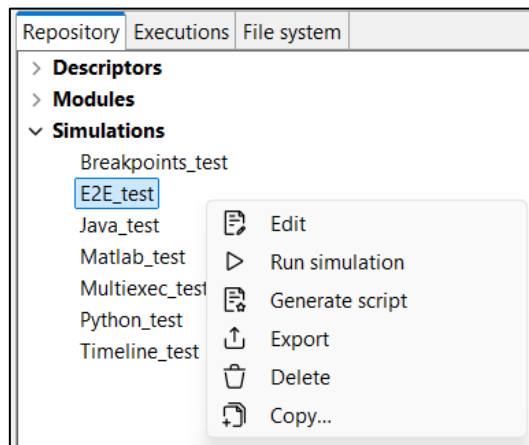

Figure 4-139: Export from the repository menu
1. From the Repository menu. In this case, we need to navigate from the “Repository” menu down to the simulation that the user wishes to export. Next, right-clicking over it; the “Export” option appears for selection. This is illustrated in Figure 4-139 below.